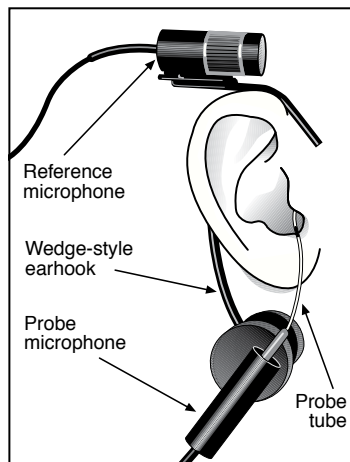

Figure 5.2.4B
Hints: To help keep the probe tube in place, position the tube so that it runs through the tragal notch, resting against the lower edge of the tragus (Figure 5.2.4B) If necessary, reposition the body of the probe microphone lower on the Velcro button of the ear hanger. If desired, use surgical tape to hold the tube in position.
2. Position the reference microphone on the earhook's wedge above the client's ear. See Figure 5.2.4B.